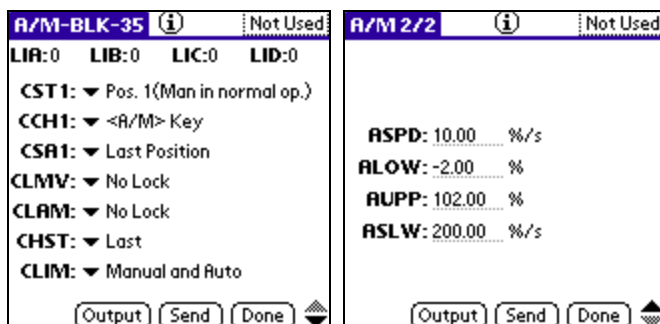

Figure 14
1. Click the desired Block (i.e. Blk 35 - Figure 14).
1. Click the desired Block (e.a. Blk 35 - Figure 14).